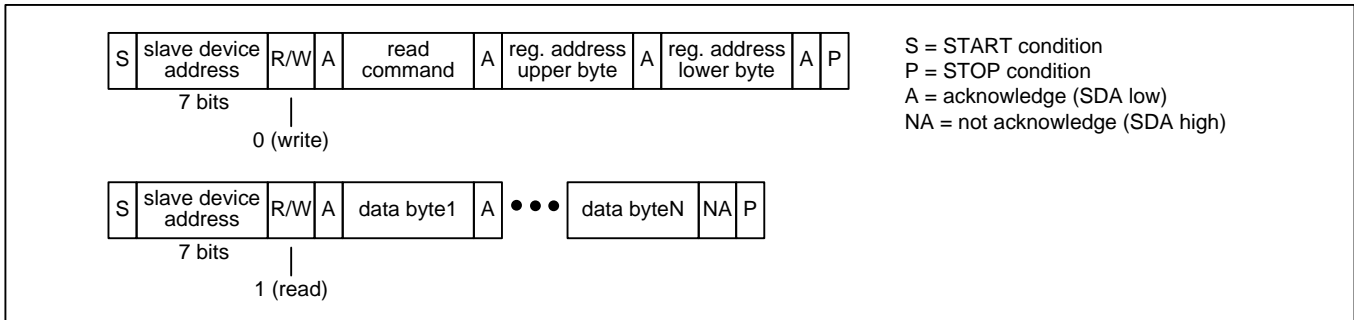
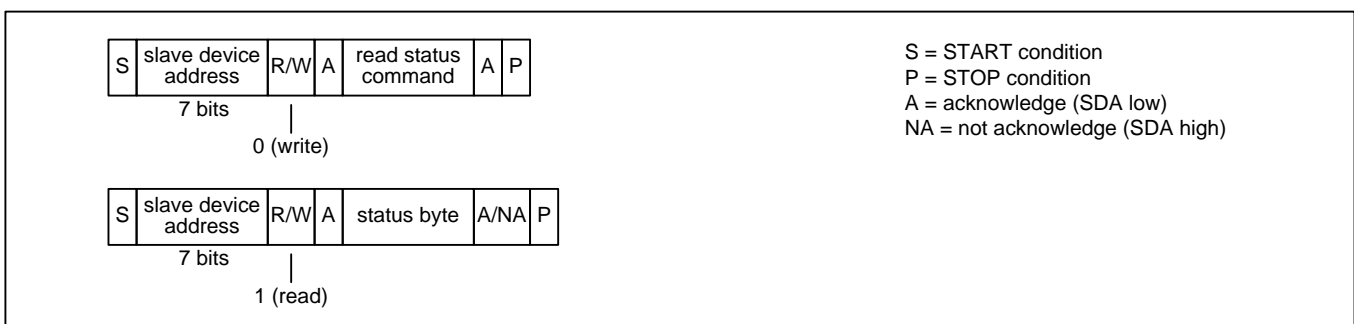

Figure 7 – I²C Read Transaction Functional Timing
Figure 10 – I²C EEPROM Read Status Transaction Functional Timing
Read Transactions. The device registers are accessible when **EESEL=0**. The internal EEPROM memory is accessible when **EESEL=1**. The bus master first does an I²C write to the device. In this transaction three bytes are written: the SPI Read command (see Table 3), the upper byte of the register address, and the lower byte of the register address. The bus master then does an I²C read. During each acknowledge (A) bit the device fetches data from the read address and then increments the read address. The device then transmits the data to the bus master during the next 8 SCL cycles. The bus master terminates the read with a not-acknowledge (NA) followed by a STOP condition (P). See Figure 7. Note: If the I²C write is separated in time from the I²C read by other I²C transactions then the device only outputs the data value from the first address and repeats that same data value after each acknowledge (A) generated by the bus master.
EEPROM Read Status. The bus master first does an I²C write to transmit the SPI Read Status command (see Table 3) to the device. The bus master then does an I²C read to get the status byte. In this byte, the least significant bit is set to 1 if the transfer is still in progress and 0 if the transfer has completed. See Figure 10.
Note: In Figure 7 through Figure 10, a STOP condition (P) immediately followed by a START condition (S) can be replaced by a repeated START condition (Sr) as described in the I²C specification.